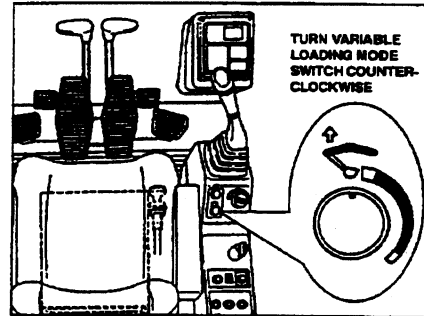

FIGURE 6.34
15. Turn the Variable Loading Mode Switch counterclockwise to the left most setting. See Figure 6.34.